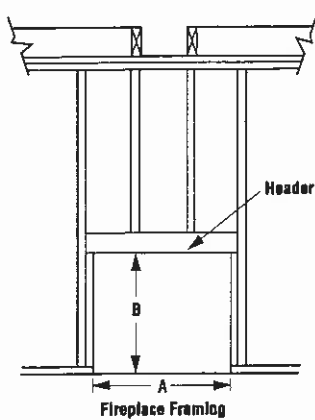

Figure 4
**Step 1.** Frame appliance enclosure as illustrated in *Figures 4 through 7 on page 5.*